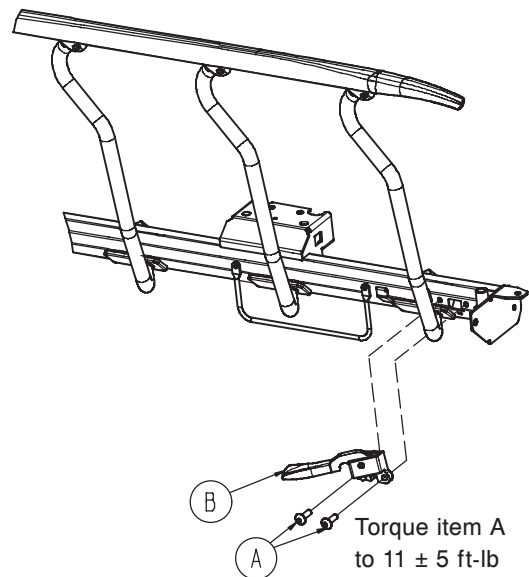

Figure 31
2. Using a T40 Torx driver, remove the two truss head machine screws (A) that hold the siderail latch (B) to the litter frame (Figure 31). Discard the screws and latch.